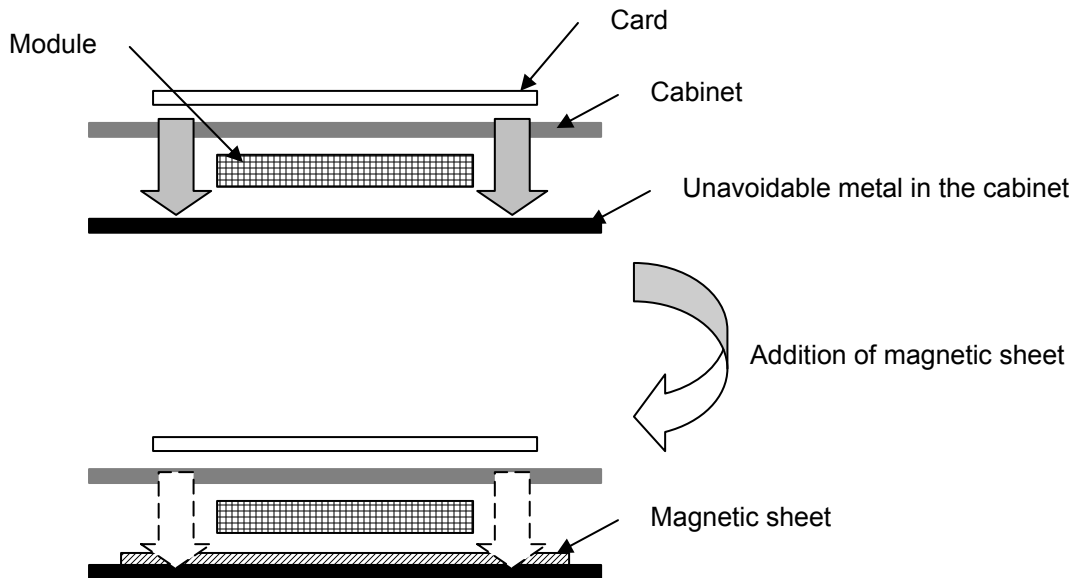

Figure A-2: Reduction of the impact of metal
4. If no performance improvement is achieved through the steps described above, add magnetic sheets (more than 70mm×60mm), as shown in Figure A-2, to the metal surface that faces the card and keep away the module from a metal plate at least 0.5mm ( $d > 0.5$ ).